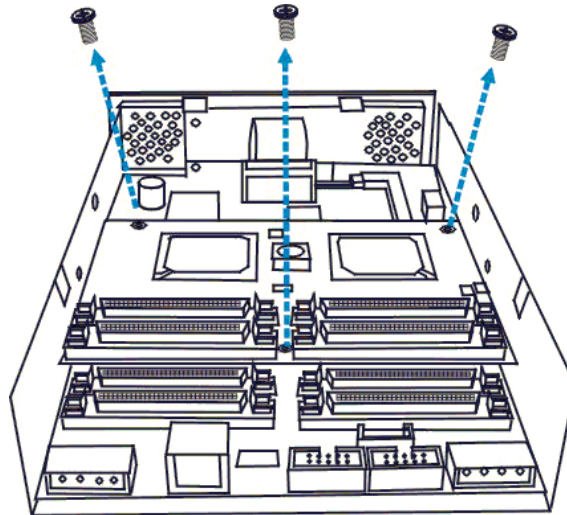

Figure 5-5: Remove the Daughter Board Retention Screws
Step 2. Remove the retention screws. The daughter board is secured to the controller board with three retention screws that pass through spacers mounted on the controller board. Remove these three retention screws. (See *Figure 5-5*)